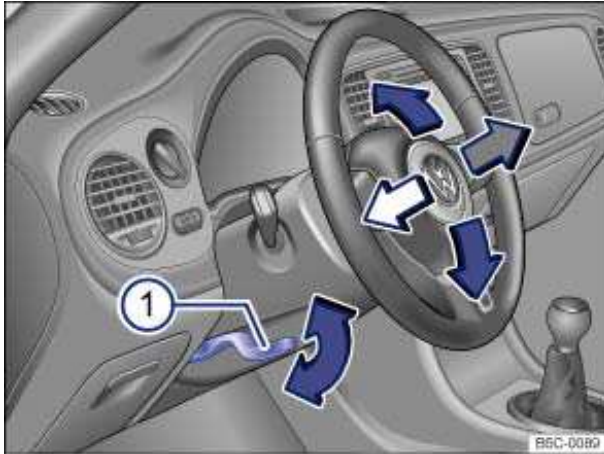

Fig. 36 Manual adjustment for the steering wheel position.
- Push down on the lever ⇒ fig. 36 (1).